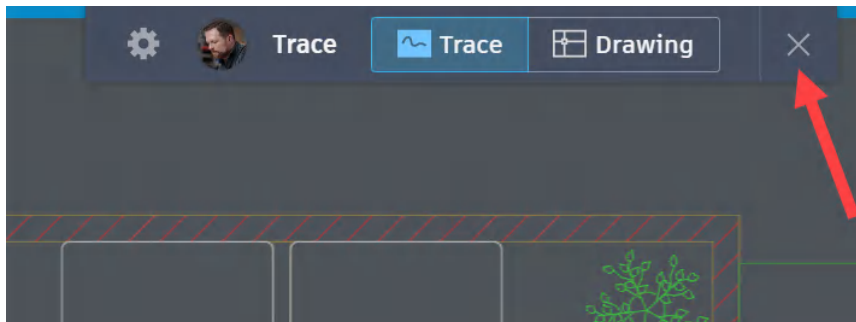

Figure 16.28: The trace toolbar with the X arrowed
10. You can now exit trace mode by clicking on the **X** at the end of the **Trace** toolbar, as shown in *Figure 16.28*.